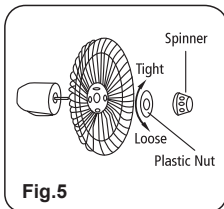

Fig.5
1. Unscrew the spinner clockwise (or take the spinner out from the bag) and the plastic nut counter clockwise to remove both of them. Fix the rear guard to the motor then tighten the plastic nut again. (Figure 5)